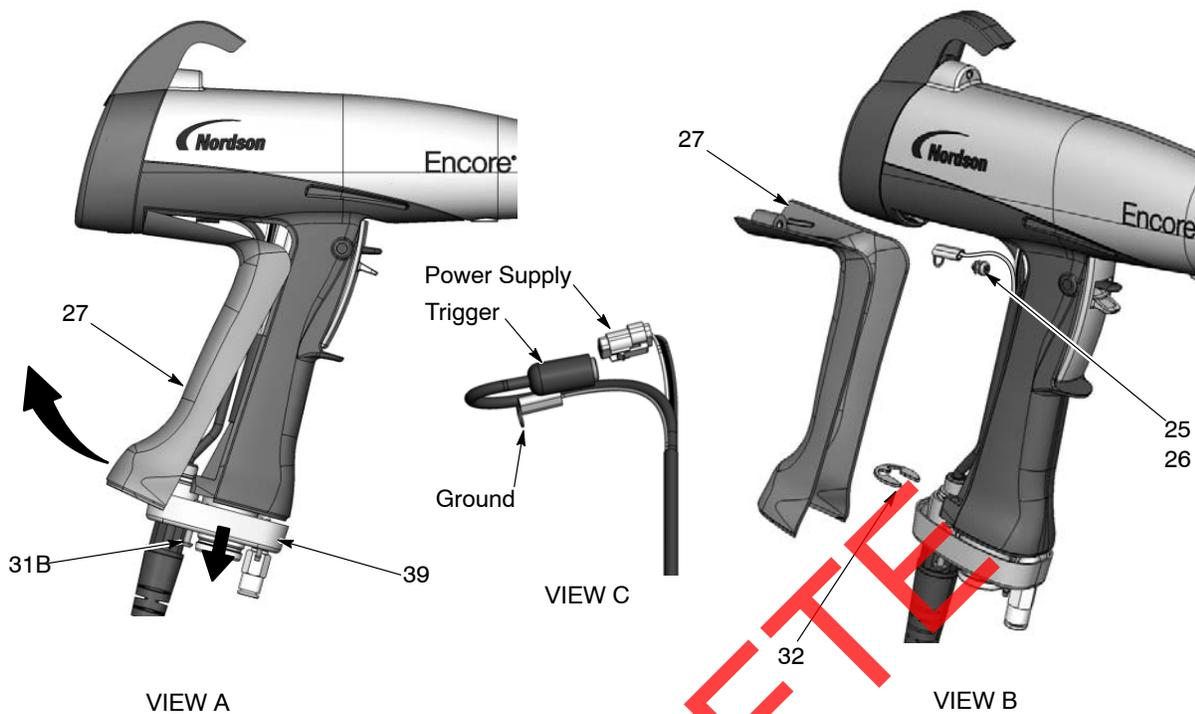

Figure 6-6 Cable Replacement
3. See Figure 6-6, View A. Loosen the two M3 x 20 screws (31B) securing the handle base (39) to the handle.
4. Pull the base away from the handle enough to free the bottom edge of the ground pad (27) from the base.
6. See Figure 6-6, View B. Remove the M3 x 6 screw (25), lock washer (26), and ground terminal from the ground pad.
7. Remove the E-ring (32) from the cable.
8. See Figure 6-6, View C. Pull the cable connectors out of the bottom of the handle. Disconnect the power supply connector from the gun cable connector by inserting a small flat-bladed screw driver in the slot of the power supply connector to release the catch.
1. See Figure 6-6. Feed a new cable through the handle base, then install the E-ring (32) on the cable to hold it in place.
3. Connect the cable terminal to the ground pad (27) with the M3 x 6 screw and lock washer (25, 26).
6. Push the handle base (39) up against the handle and ground pad, and tighten securely the two M3 x 20 screws (31B) in the base.
1. See Figure 6-6. Remove the ground pad as described in *Cable Removal* steps 1–5 . You do not have to disconnect the ground cable from the ground pad.